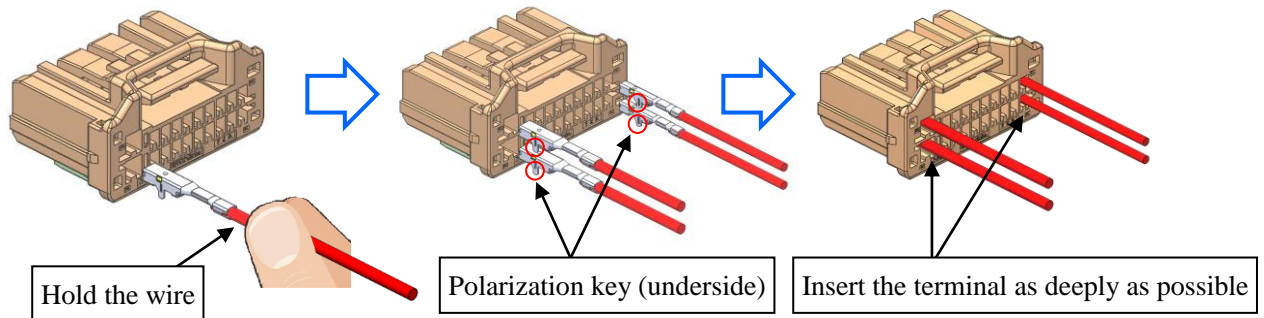

Fig 23. Terminal insertion direction: FEMALE HOUSING
- ① Ensure that the terminal is crimped correctly and there is no damage, deform or dirt present.
- ② Hold the wire to insert the terminal as shown in Fig.23.
- ③ Insert the terminal into the corresponding corehole of the housing, as deeply as possible, in the orientation as shown in Fig. 23.
- ④ Once the terminal is inserted, ensure that the terminal retention is fastened by pulling the wire lightly towards you.